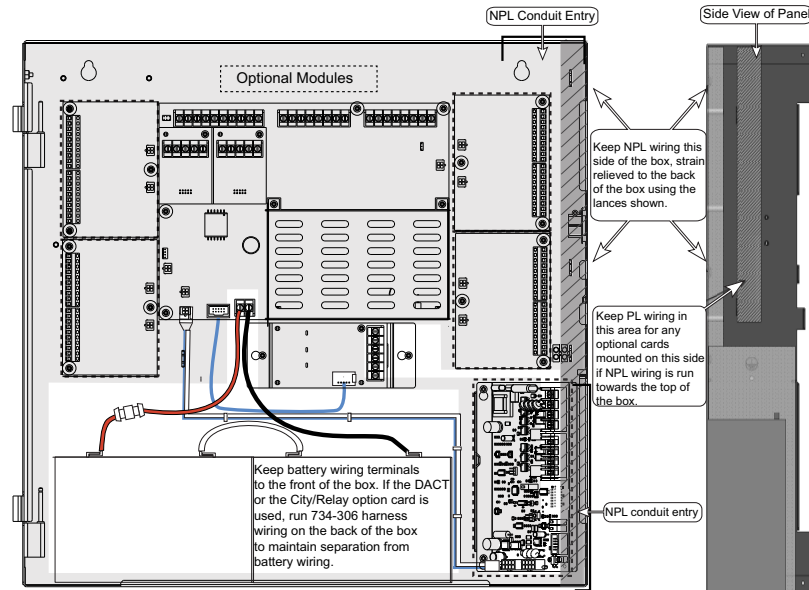

Figure 2-5. Field Wiring Guidelines (NAC Power Supply Shown as Reference)
- Non-Power Limited (NPL) field wiring (AC power, batteries, City connection, DACT) must be installed and routed in the shaded areas shown in Figure 2-5.